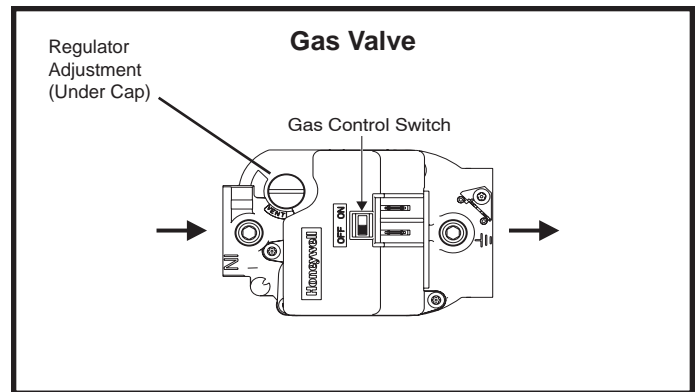

Figure 9
3. Turn the gas valve knob to the "ON" position (see Figure 9).
2. Turn the gas valve switch to the "OFF" position (see Figure 9).
The manifold pressure can be measured by shutting off the gas, removing the pipe plug in the downstream side of the gas valve, and connecting a water manometer or gauge. **Under no circumstances should the final manifold pressure vary more than 0.3" w.c. from the above specified pressures.** To adjust the regulator, turn the adjusting screw on the regulator clockwise to increase pressure and input or counterclockwise to decrease pressure and input. See Figure 9 to assist in locating the regulator on the gas valve.